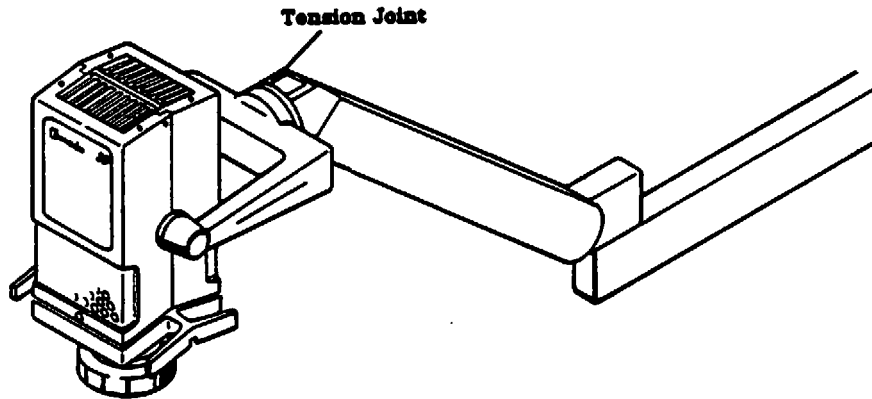

Figure 9. Tension Joint
2. Locate the notch on the underside of the joint between the lamp-head assembly and the articulating arm (Figure 9).